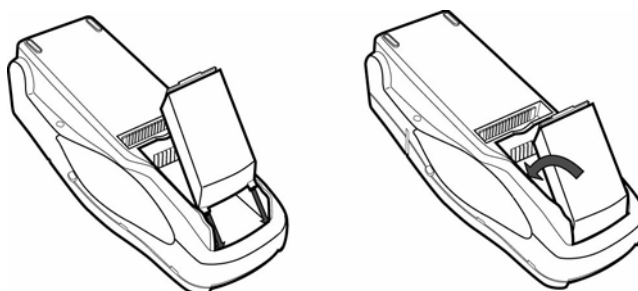

Figure 4 Install the Smart Battery
- Eight function keys: four function keys, labeled F1 to F4, right display; four unlabeled, *programmable* function (PF) keys above the keypad
- The smart battery pack installed in back of unit (Figure 4)
The smart battery installs in a slot on the back of the terminal, as shown in Figure 4. The locking tab clicks when the battery is in place. The slot is *keyed*, so that there is only one way to insert the battery.